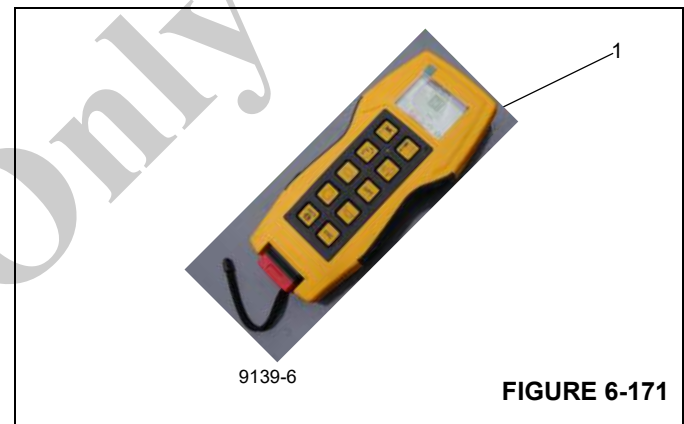

FIGURE 6-171
8. See the remote controller *Remote Control Operation*, page 3-106 for operation and also reference (1), (Figure 6-171) to fully retract the luffing cylinder.
- 9. Using the remote controller (Figure 6-171) engage pin #2 (1), (Figure 6-166) with the extension and lug.
- 11. Using the remote controller (Figure 6-171), fully retract the luffing cylinder. The barrel pointer #2 if equipped, should be located to line up with the rod pointer when the extension has boom luffed down enough to clear the base boom extension hanging on the boom carrier brackets.
13. Using the remote controller (Figure 6-171), extend the luffing cylinder so the heavy duty extension fittings engage the lattice base extension fittings.